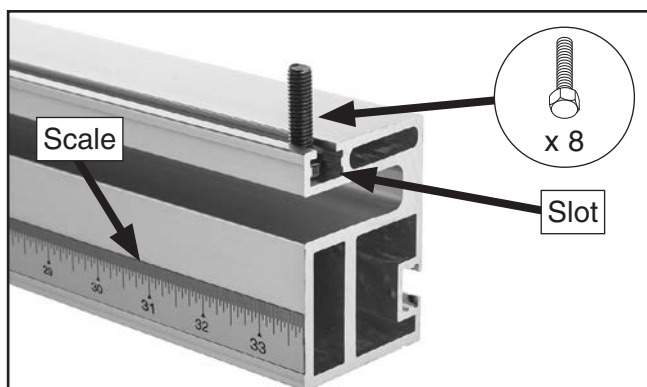

Figure 21. Hex bolt positioned in front fence rail slot.
7. Orient fence rail so scale faces you. Slide (8) M8-1.25 x 30 hex bolts into open slot (see **Figure 21**).